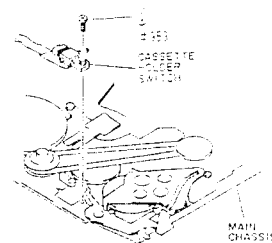

Fig. 2-73
- Main Chassis Bracket (1), (2)	3-4-1
- Supply Guide Roller (2), Supply Tape Guide, Loading Motor	3-6-4
- Loading Gear (2), (3), Mechanism State Switch	3-6-5
- Remove one (1) screw holding the cassette holder switch. (See Fig. 2-73)